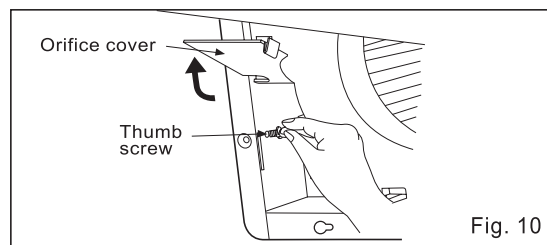

Fig. 10
6. Open the orifice cover, secure the fan body to adaptor by using thumb screw. (Fig. 10)
5. Secure the adaptor and fan body by using thumb screw. (Fig. 10)